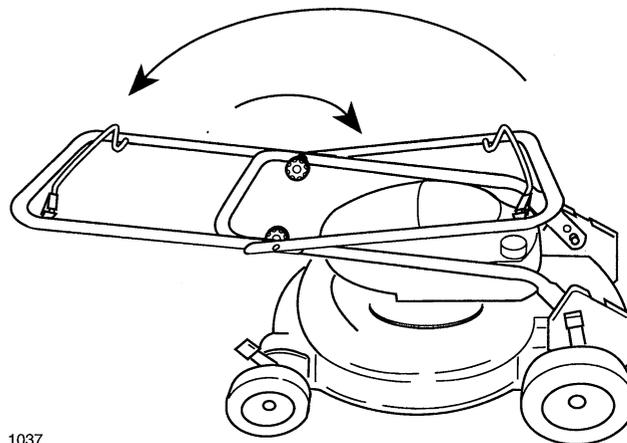

Figure 38
2. Rotate handle toward front of mower (Fig. 38).
4. For long term storage, fold handle as shown in Figure 38.